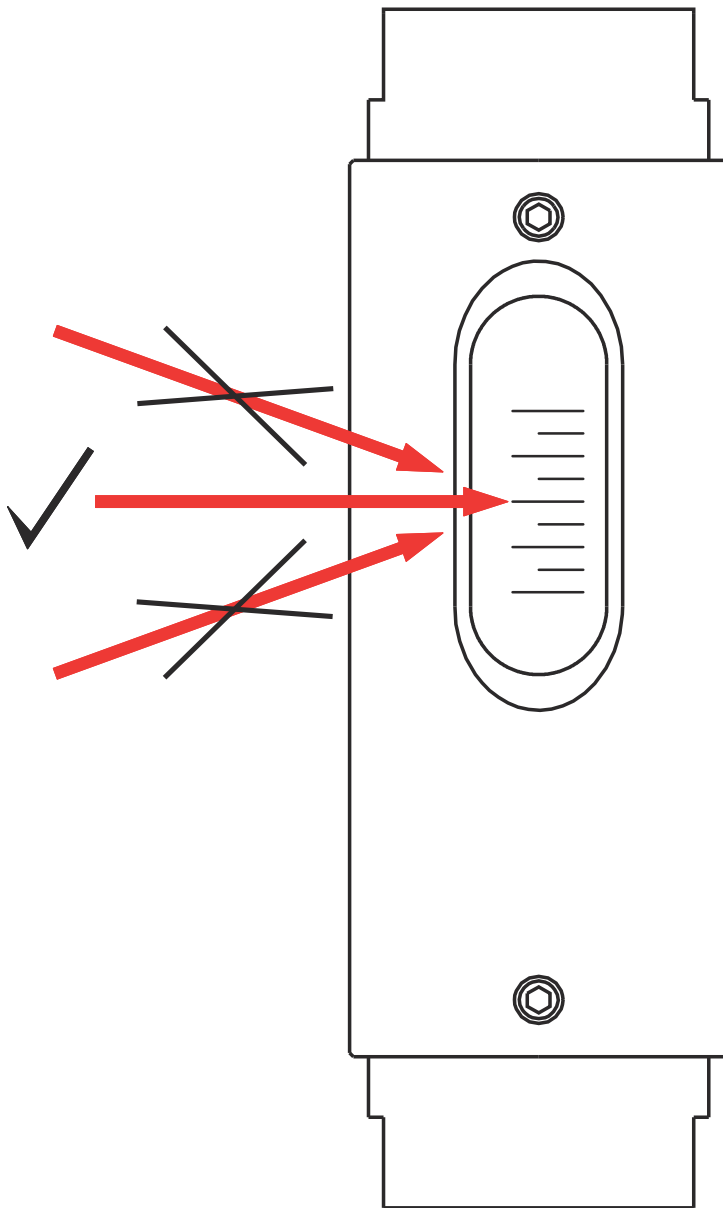

Fig. 34: Reading-off the measuring scale
2. ➤ To obtain greatest reading accuracy, read-off at eye level. (Fig. 34, middle arrow). The read-off value can be falsified by viewing at an angle